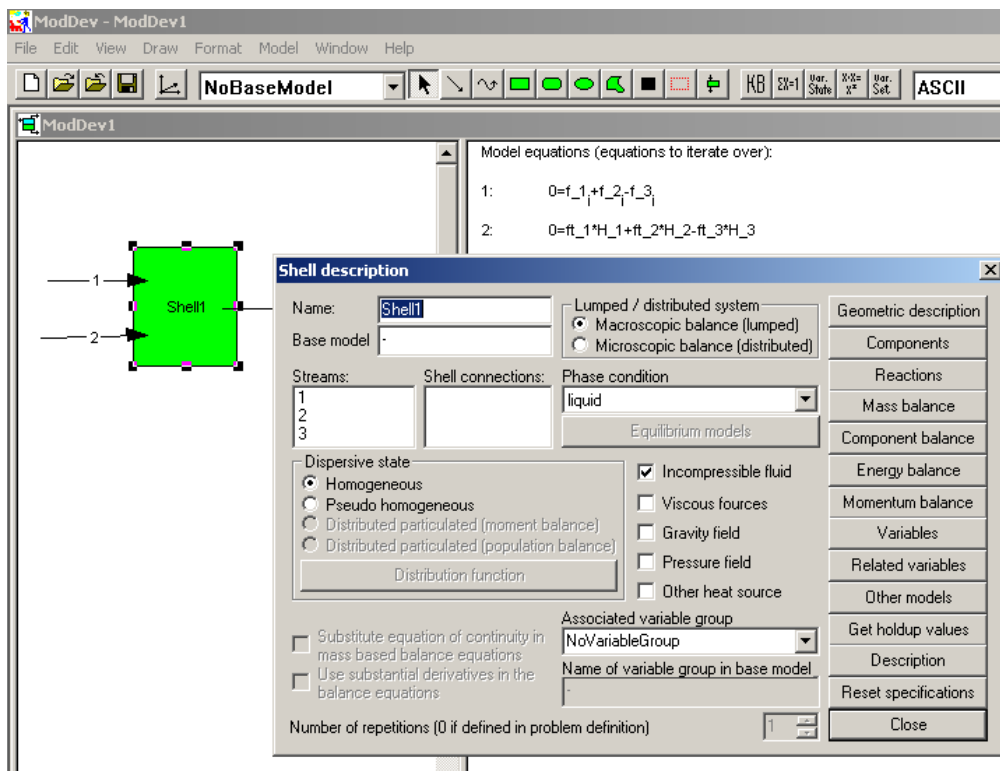

Figure 4: Describing of the shell.
Step2: Describe the shell – Double click on the shell to enter the “shell description” tool (fig. 4). For this simple model, the default equations for mass and energy balance are acceptable. Therefore, no further action is needed. Exit by clicking on “close”.